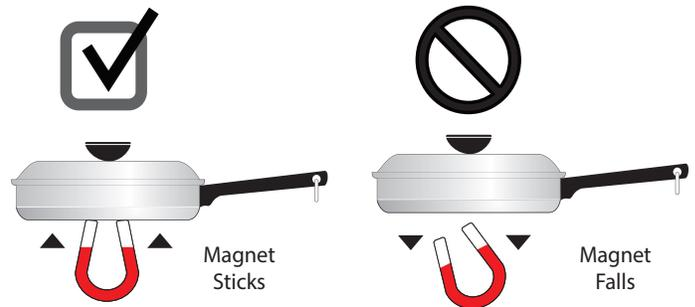

Figure 3: Magnet test
The size and type of cookware used will influence the heat setting needed for best cooking results. Be sure to follow the recommendations for using proper cookware as illustrated in Figure 2 and Figure 3.
- **Stainless Steel** - Slow heat conductor with uneven cooking results. Durable, easy to clean, and resists staining. Some types of stainless steel will not work on an induction cooktop. Use the magnet test (Figure 3) to check stainless steel cookware.
- **Porcelain-enamel on metal** - Heating characteristics will vary depending on base material. Porcelain-enamel on a compatible metal will work on an induction cooktop. Use the magnet test (Figure 3) to check porcelain-enamel cookware.
To see if a piece of cookware will work on your induction cooktop, try to stick a magnet to it (see Figure 3).